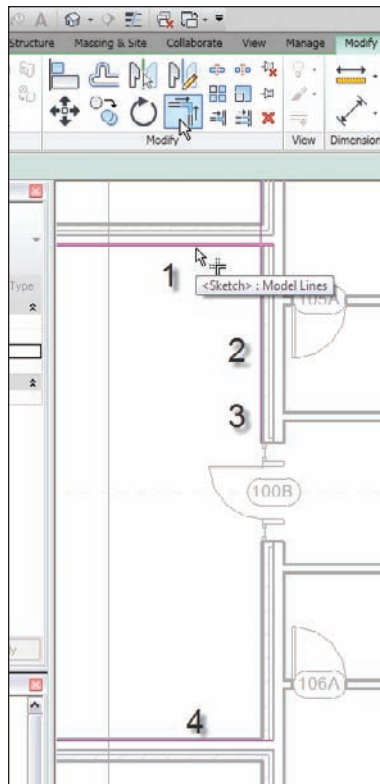

FIGURE 6.16 Picking the magenta lines in the numbered order illustrated in the figure
1. Pick the Trim/Extend Single Element button from the Modify panel as shown at the top of Figure 6.16, and click the portions of the two lines you want to keep. This will remove the excess from the corner.